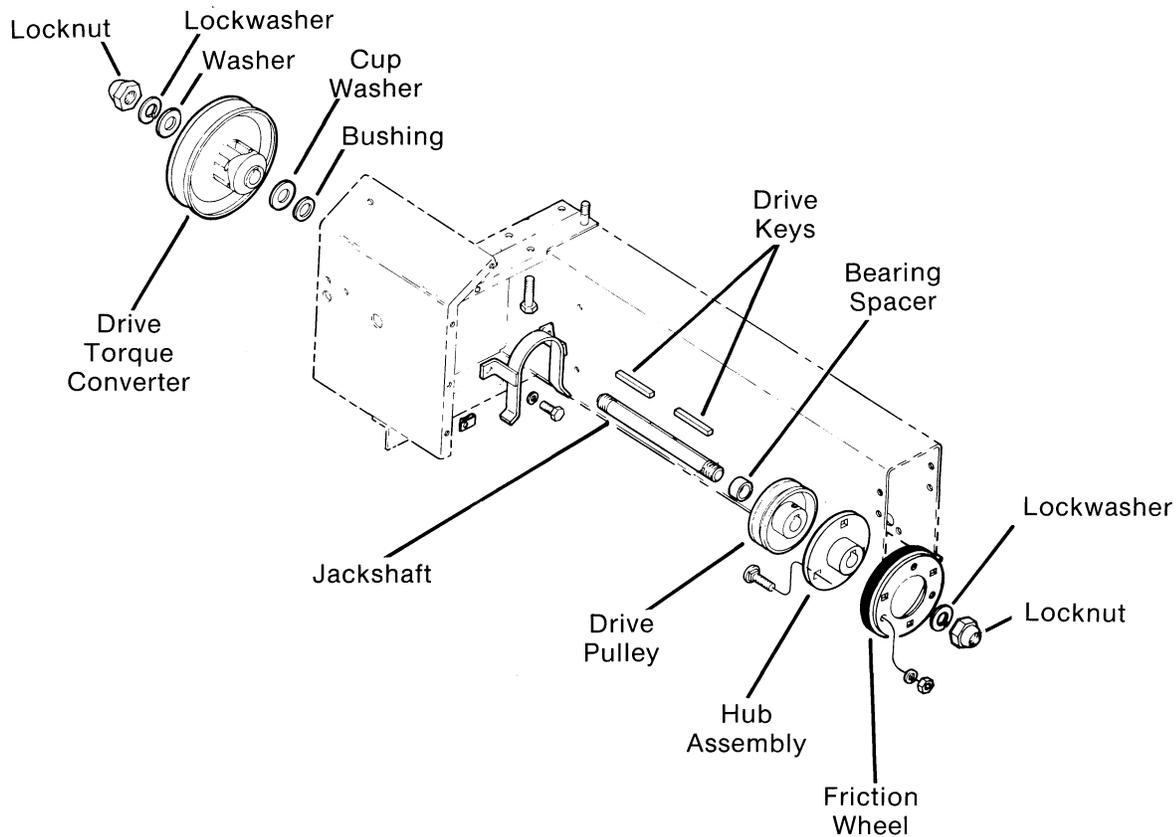

FIG. 24
- K. Install bushing, washer, cup washer, drive key and "driven" torque converter assembly onto rear of jackshaft. (Fig. 24)
- L. Install bearing spacer, drive key, drive pulley, hub assembly and friction wheel onto front of jackshaft. (Fig. 24)
- M. Install washers and locknuts onto both ends of jackshaft. (Fig. 24)